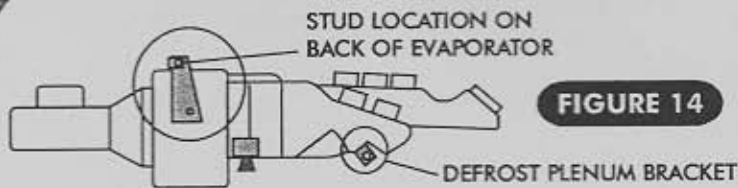

FIGURE 14
- NOTE** USING A 1/2" x 1" LONG STUD INSTALLED IN THE BRACKET ON THE BACK OF THE EVAPORATOR WILL EASE INSTALLATION (SEE FIGURE 14). REMOVE STUD AND REPLACE IT WITH THE SUPPLIED BOLT ONCE ALL EVAPORATOR BRACKETS ARE ATTACHED.